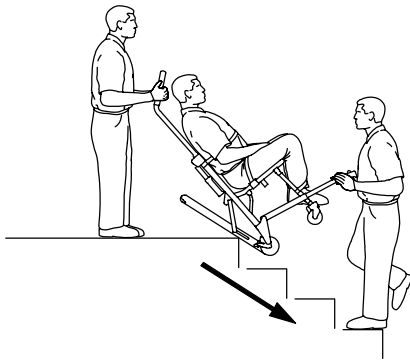

Figure 10 – Track engaging first step
7. Both operators: Maintaining the angle, guide the chair over the edge of the stairs. Allow the **Stair-TREAD** system to connect with the first step (Figure 10).